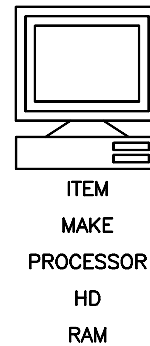

Figure 15-7 Define attributes below the computer drawing
8. Similarly, define the remaining attributes also (Figure 15-7).